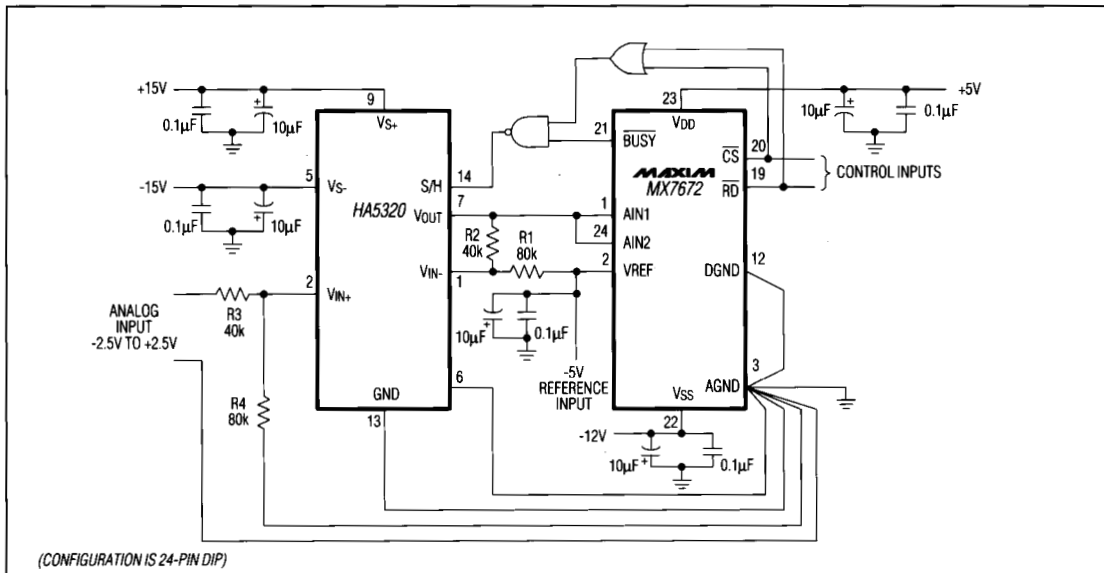

Figure 14. MX7672—HA5320 Sample-and-Hold Interface
**MX7672\_\_03**—Figure 14 is the MX7672\_\_03 to HA5320 interface. The maximum sampling rate is 210kHz with a 4MHz clock, which allows a 1.5 $\mu$ s acquisition time. The HA5320 can also be replaced by a HA5330 for higher throughput.